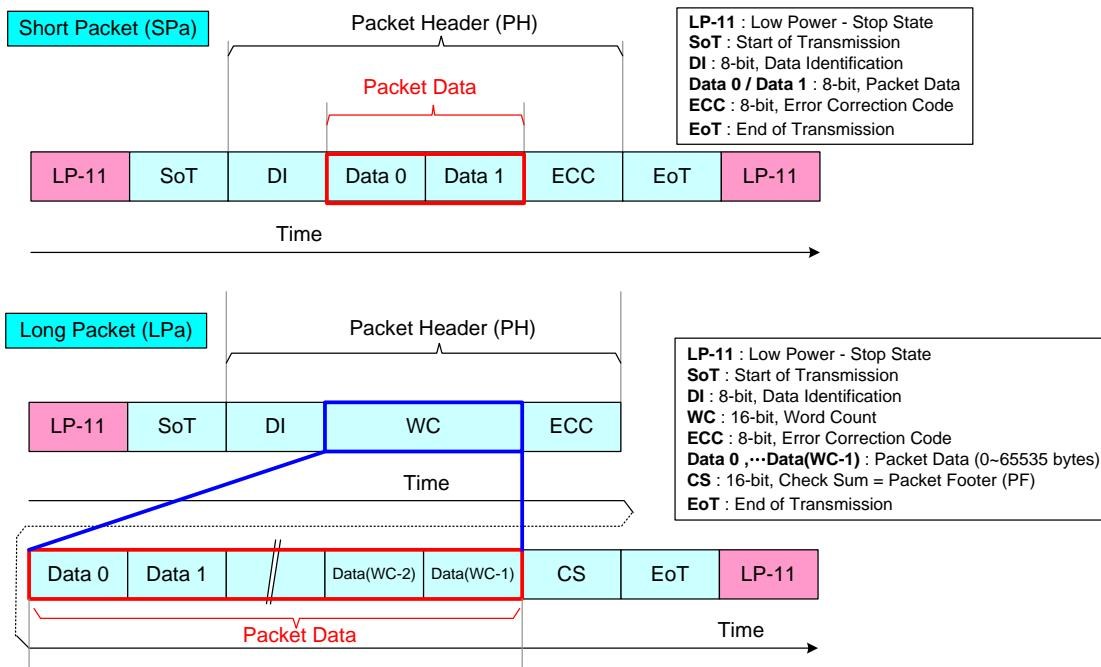

Figure 45: Packet Data in Short and Long Packets
Word Count (WC) of the Long Packet (LPa) is placed after Data Type (DT) of the Data Identification (DI) and indicates that a Long Packet (LPa) is to be sent. Word Count (WC) indicates the amount of data bytes of the Packet Data (PD) that is to be sent after the Packet Header (PH). The location of the Word Count (WC) in a Long Packet is the same as which of the Packet Data (PD) in a Short Packet (SPa), as shown in Figure 45. Word Count (WC) of the Long Packet (LPa) consists of 2 bytes. The sending order of these 2 bytes of the Word Count (WC) is that the Least Significant (LS) Byte is sent first, and the Most Significant (MS) Byte is sent last. Word Count (WC) of a Long Packet (LPa) is illustrated for reference purposes below.